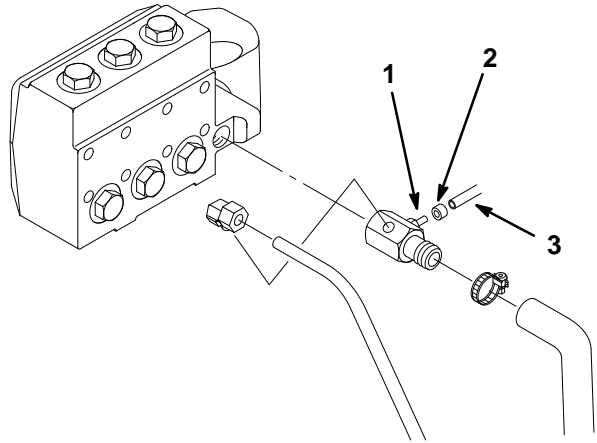

Figure 10
19. Reconnect the valve assembly hose and tube retainer to the barbed fitting on the inlet side of the pump (Fig. 10).